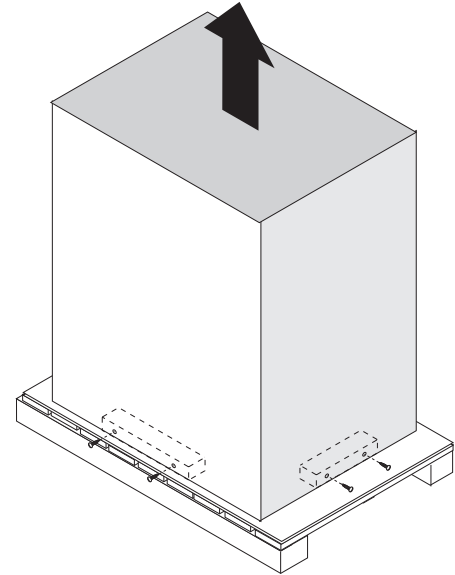

Figure 2-2: Removing the Cardboard Box
1. Remove the securing screws around the bottom of the box using the Phillips head screwdriver as shown in Figure 2-2.